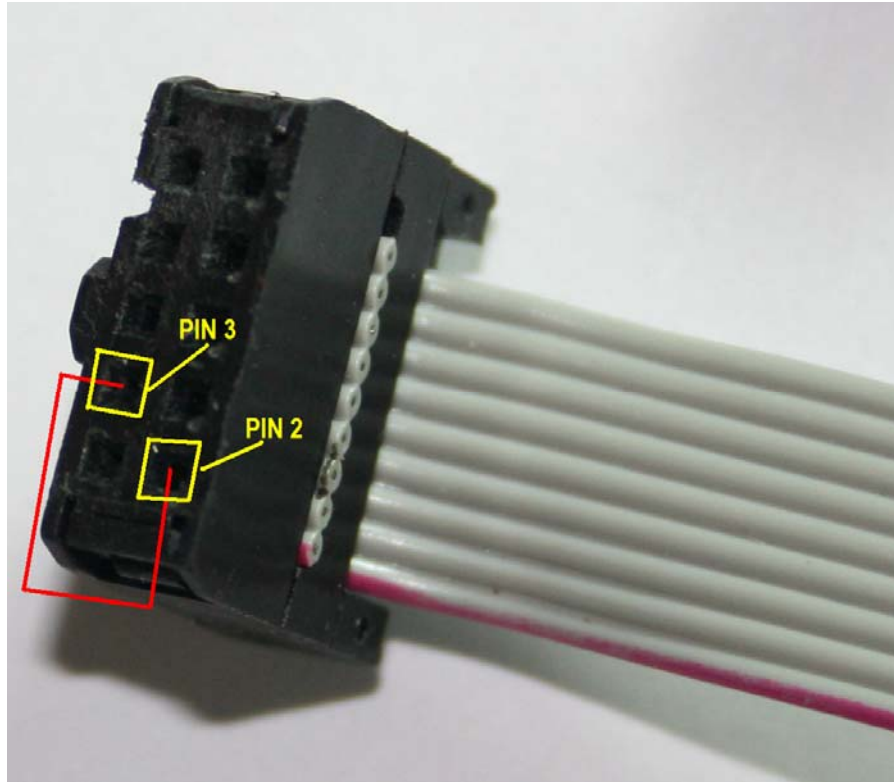

Figure 84. Serial Cable Loopback
1. Connect a wire across the TX and RX leads (Pins 2 and Pins 3) of the cable that plugs into the BeagleBoard (IDC Cable). **Figure 84** shows how this is done.